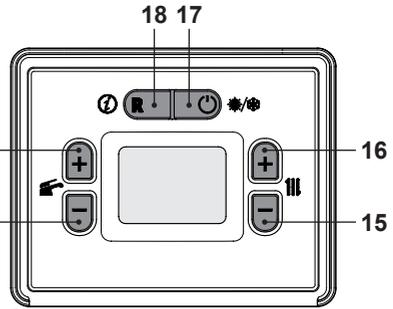

Figure 5.39
- Use 15 or 16 (Figure 5.39) to change the value of parameter A52:
- Press 12 or 13 (Figure 5.39) to confirm the value entered and return to the list of parameters (Figure 5.40).
- Press 17 (Figure 5.39) to exit "programming mode".